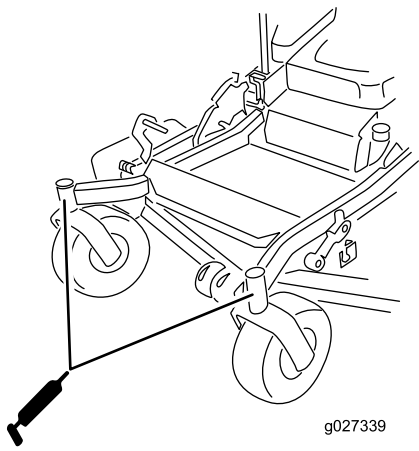

Figure 46
11. Install the hex plug and dust cap (Figure 46).
12. Grease the caster-wheel bearings (Figure 46).